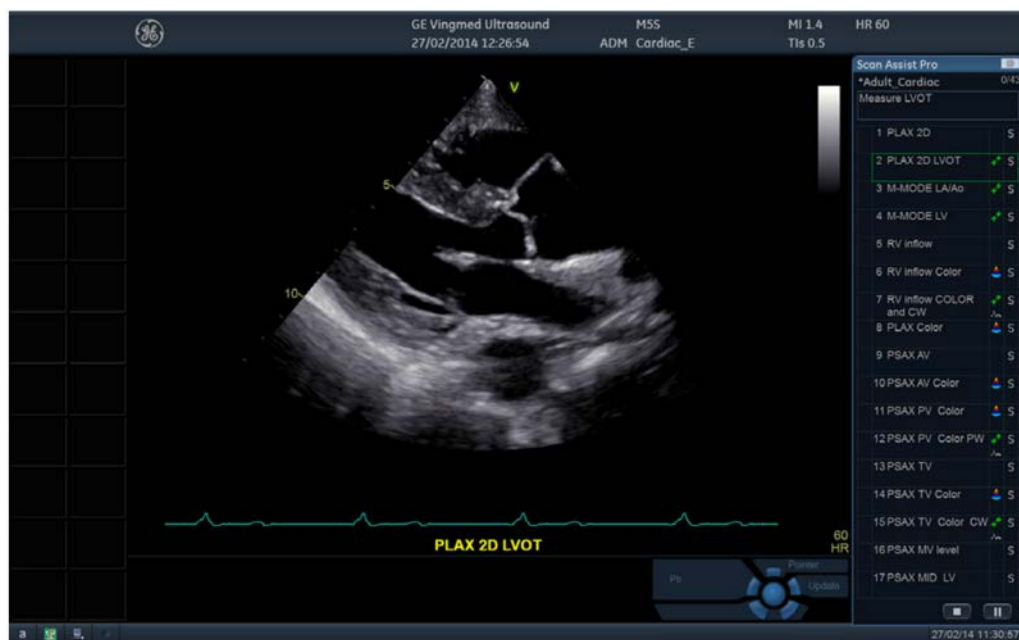

Figure 5-27. Scan Assist Pro screen
**Config:** display Scan Assist Pro config sheet (Figure 5-27 on page 5-64).